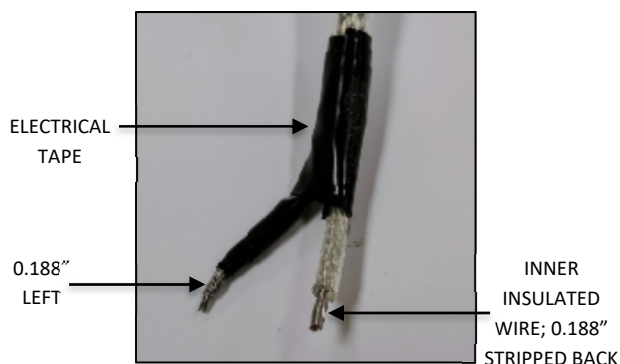
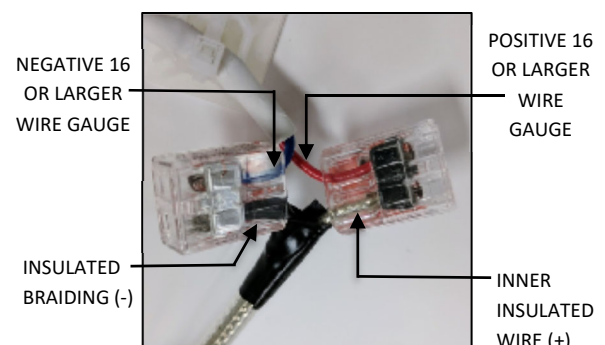

FIG. 31
FIG. 32
3. Using electrical tape, insulate the twisted strands leaving 0.188" exposed for connections. Strip off 0.188" of the inner insulation as you normally would for 18AWG stranded core wire as shown in FIG. 31 below. Connect the inner insulated wire (+) to the positive 16 gauge or larger wire ran in step 5 at the hanging bracket and Connect the outer braiding (-) to the negative 16 gauge or larger wire ran in step 5 at the hanging bracket FIG. 32 below.